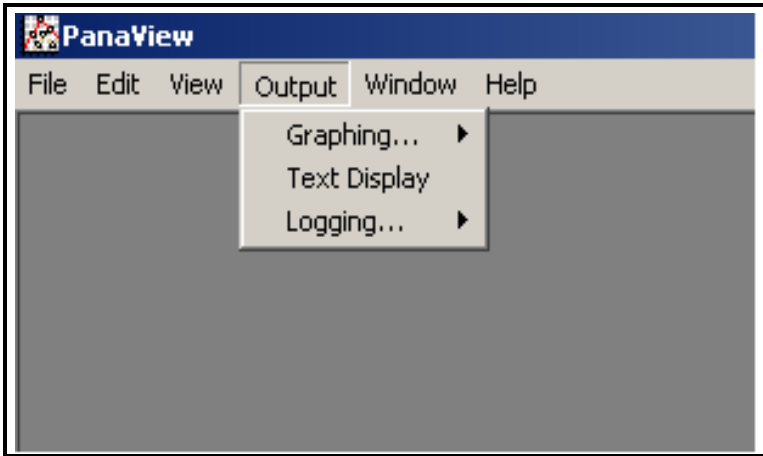

Figure 6-1: The Output Menu
To access PanaView's data handling options, pull down the "Output" menu, as shown in Figure 6-1 below.
2. Pull down the “*Output*” menu and click on the “*Text Display*” option (see Figure 6-1 on page 6-2).
2. Pull down the “Output” menu and click on the “Graphing - New” option (see Figure 6-1 on page 6-2).